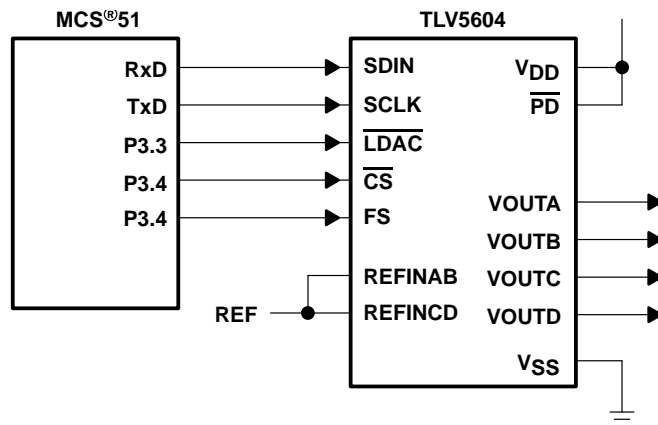

Figure 18. TLV5604 Interfaced with MCS®51
Figure 18 shows an example of how to connect the TLV5604 to an MCS®51 Microcontroller. The serial DAC input data and external control signals are sent via I/O Port 3 of the controller. The serial data is sent on the RxD line, with the serial clock output on the TxD line. Port 3 bits 3, 4, and 5 are configured as outputs to provide the DAC latch update ( $\overline{\text{LDAC}}$ ), chip select ( $\overline{\text{CS}}$ ) and frame sync (FS) signals for the TLV5604. The active low power down pin ( $\overline{\text{PD}}$ ) of the TLV5604 is pulled high to ensure that the DACs are enabled.